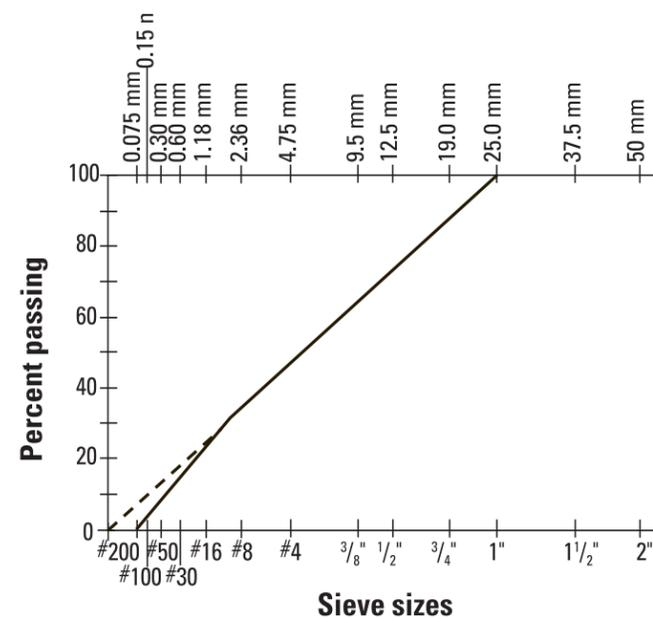

Figure 2. Shilstone's 0.45 Power Chart can be used to describe an ideal aggregate gradation. Deviations from this line identify deviations from the optimum.
- The 0.45 Power Chart (figure 2) provides a method for comparing the amounts of aggregate of various sizes to the amounts in an "ideal" combined aggregate.